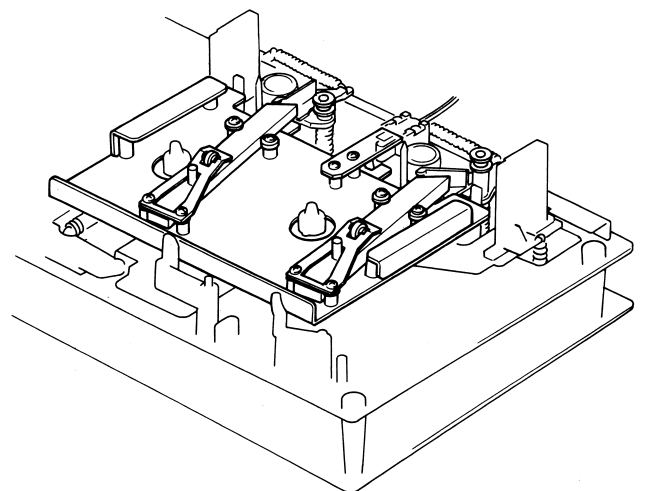

Fig. 4.8
Remove Head Mount Base Ass'y referring to item 2.21. Refer to Figs. 4.8 and 4.9.
(1) Erase Head Stroke Adjustment
(2) Supply Tape Guide Height Check
(3) Take-up Tape Guide Height Check